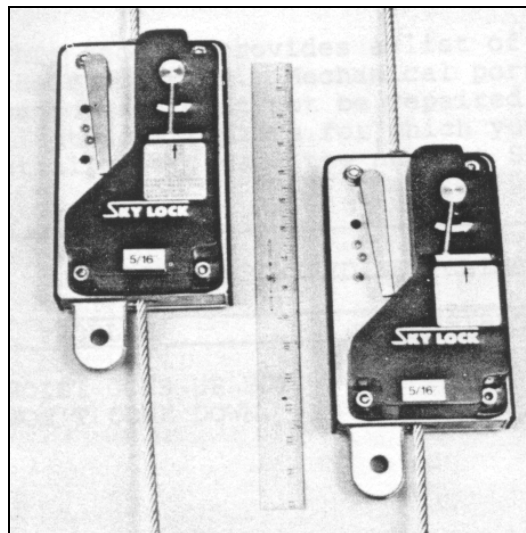

Figure 5.4
- 3) Raise the Sky Lock brake up the wire rope approximately 30 cm and release it (let it drop). The Sky Lock brake should trip and Lock onto the rope after a fall of not more than 10 cm. (See Figure 5.4)